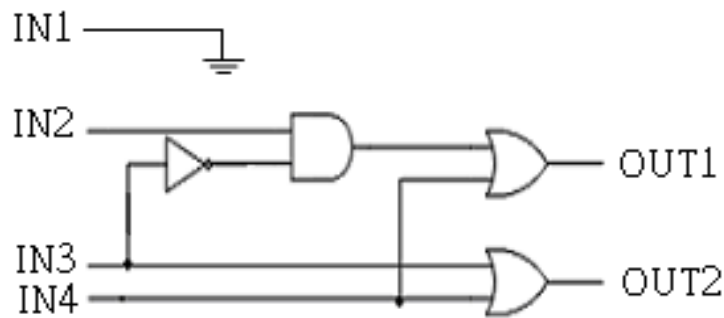

Figure 4-17
- 4 to 2 priority encoder circuit, as figure 4-17.